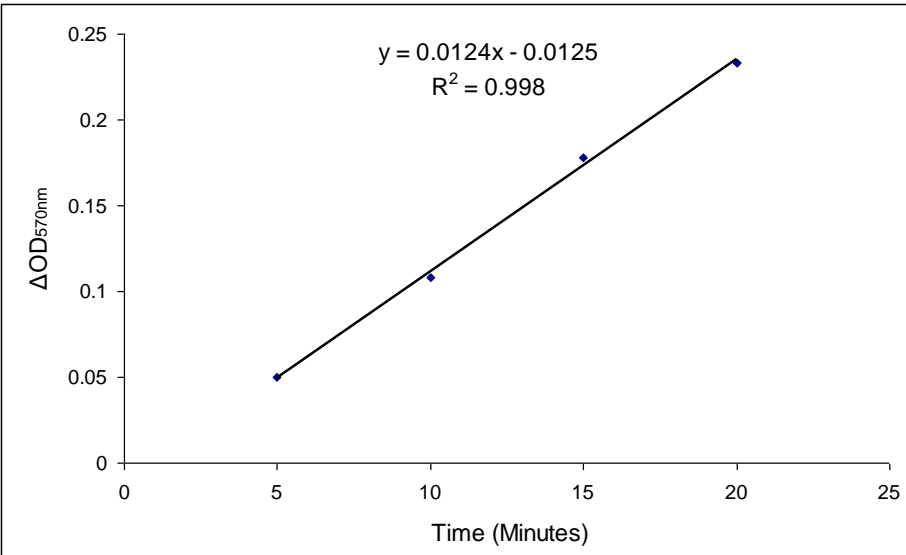

Figure 2. The change in absorbance, ΔOD_{570nm} , of diluted PK positive control during the indicated time at 570nm.
Diluted PK positive control is measured with the PK Assay kit after various reaction times (Figure 2). The linear range of detection is 0.3 to 9.6 U/ml in a 96-well plate assay.
4. Obtain the change in absorbance, T_{20} and T_0 , based on the curve of the diluted PK positive control, as shown in Figure 2.